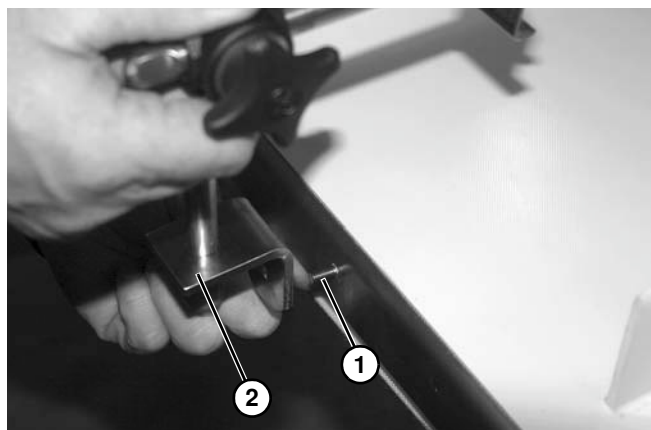

Figure 44
1. Install carriage bolt (**Figure 44, item 1**) through square hole in frame, and install rail clamp (**Figure 44, item 2**) on to carriage bolt.